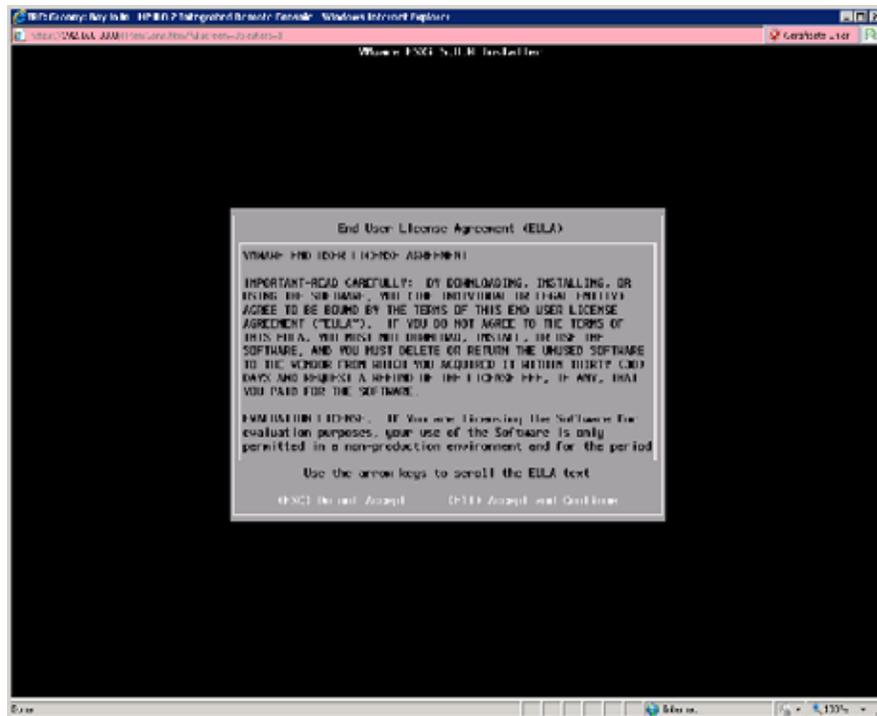

Figure 5 End User License Agreement for ESXi 5.0
Step 3 As part of the boot sequence, you must acknowledge license agreement. See Figure 5 on page 79.